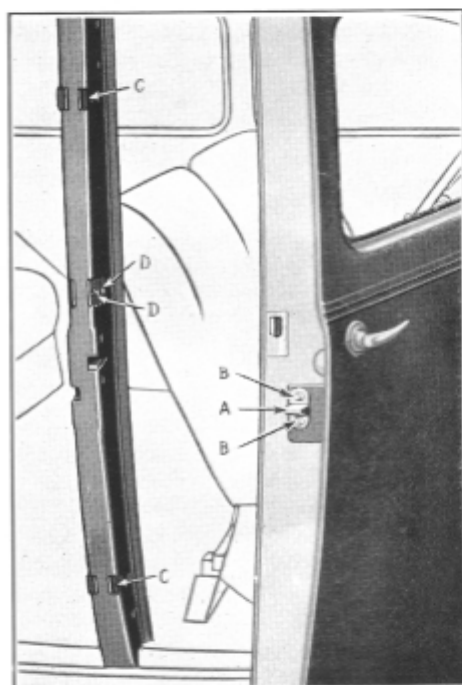

Figure 29
Door striker plates are adjustable to permit proper in and out regulation of the door position. The dovetail (male) (A), Figure 29, is adjustable to center the door up and down. The hinge pins are cadmium plated to prevent rusting and squeaking of hinges.